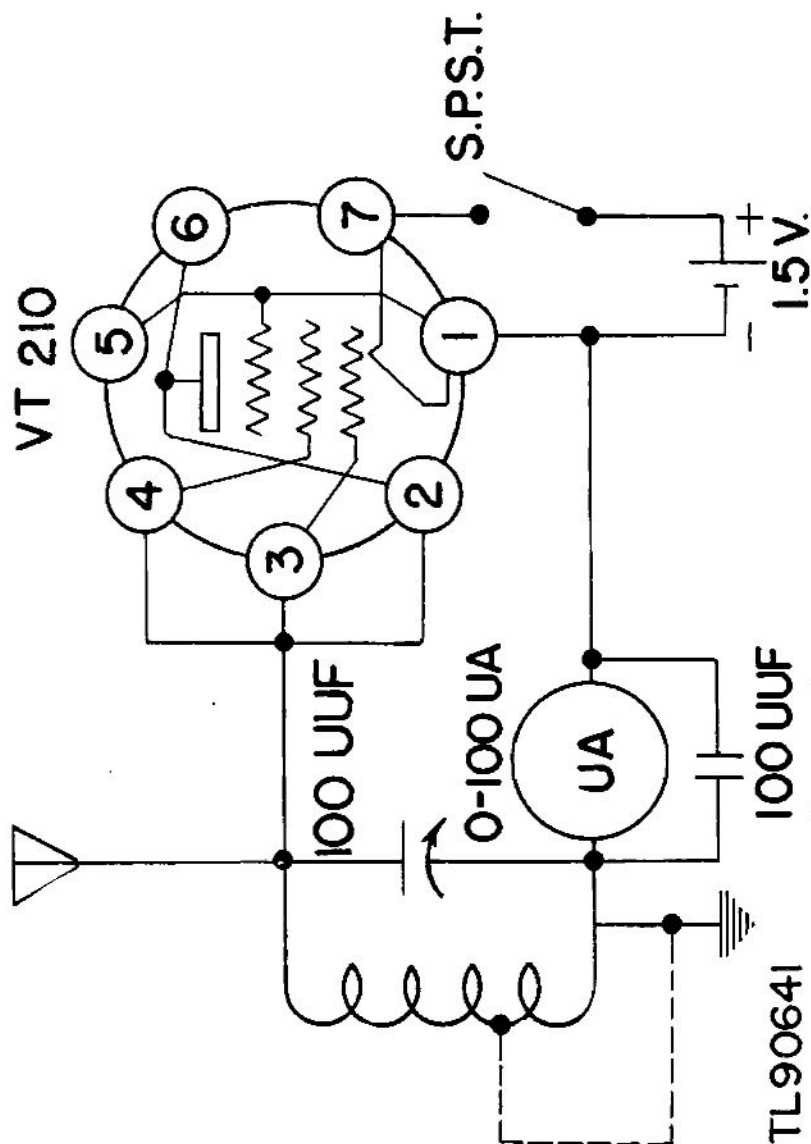

Figure 37. Schematic diagram of tuning indicator.
b. The control and screen-grid and the diode plate of the 1S4 tube are externally connected to the plate of the tube (fig. 37).